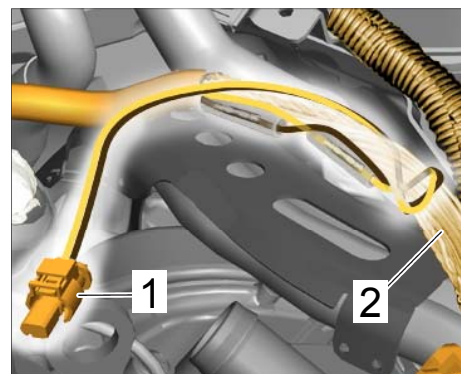

Figure 18
- 5.22 Guide the connector wires $\Rightarrow$ *Figure 18 -item 1-* in a **loop** around the main wire harness $\Rightarrow$ *Figure 18 -item 2-* as shown and route them to the junction for the connector.